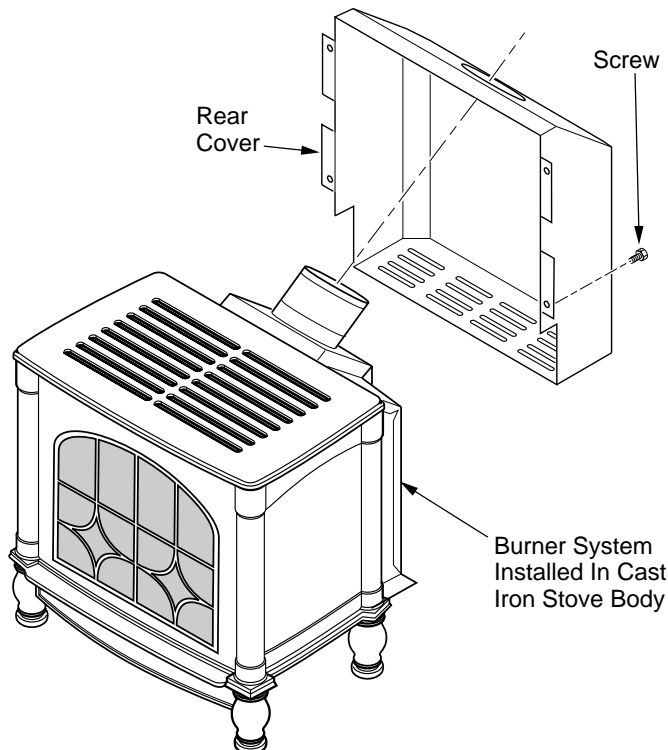

Figure 16 - Installing Rear Cover
2. Using screws provided, attach rear cover to back of stove body. See Figure 16.